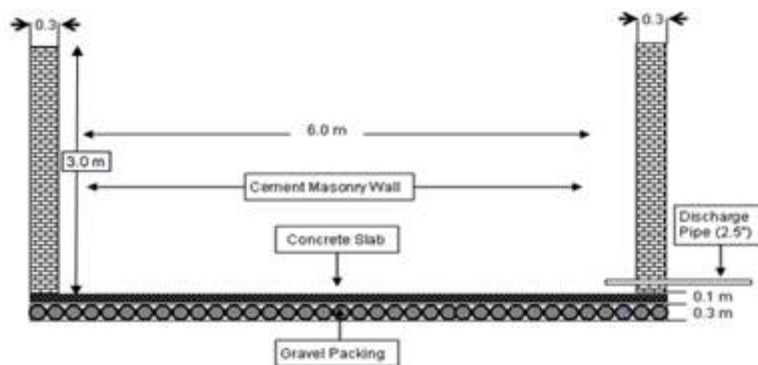

Figure 5: The design of 85 m3 storage pond (Source: Sustainable utilization of natural resources program, 2005, Tigray)
- Construct the pond as the design shows in the figure 5 below.